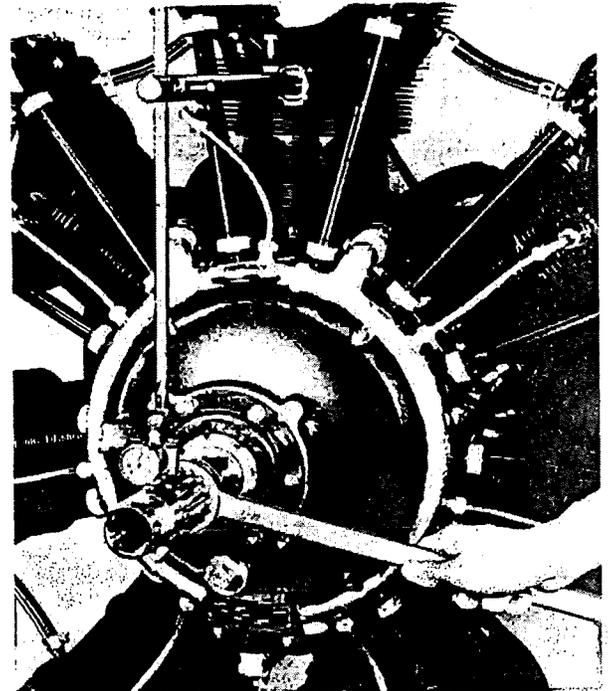

Figure 3 - Checking Propeller Shaft Runout with Dial Indicator
(1) Cylinder Baffles: Remove all cylinder baffles and baffle ring.
(2) Ignition Wires: Disconnect the ignition wires from the spark plugs.
(3) Spark Plugs: Remove the spark plugs and install a set of vented dummy plugs.
(4) Propeller Shaft Runout: Check propeller shaft runout with a Dial Indicator mounted from the cowling stud adjacent to the thrust bearing cover. Refer to Figure 3. The runout of the propeller shaft is measured at the front and rear propeller cone seats with a dial indicator while the propeller shaft is turned with the Wrench (Tool No. T-340). If the runout exceeds .005" at the rear propeller cone seat, or .010" at the front propeller cone seat, a note should be made to thoroughly check